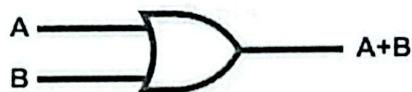
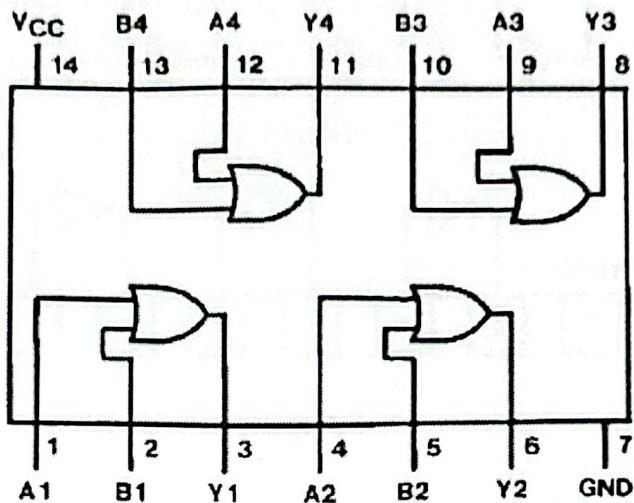

Fig. 3.1
Fig. 3.2
4. Wire the circuit according to the diagram in figure 3.1 by consulting OR gate IC's data sheet in fig 3.2.